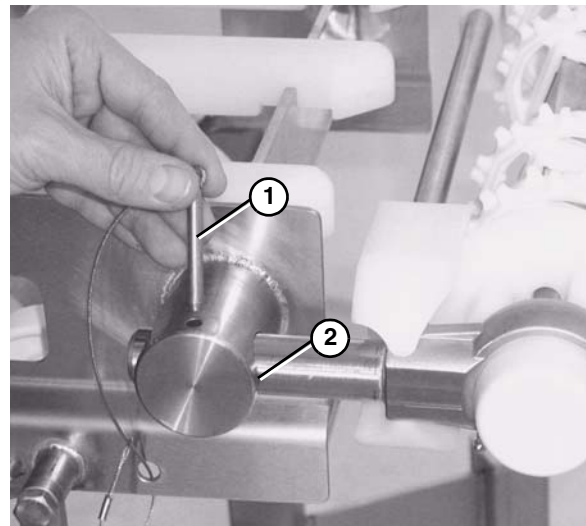

Figure 59
1. Remove both pull pins (Figure 59, item 1) on the tension end of the conveyor.
2. Extend the idler tail to the next groove (Figure 59, item 2) on the bearing shaft.